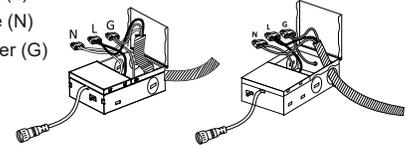

Fig. 3
3. Insert the junction box through the mounting hole and secure it, connect the fixture power cable to the junction box. Select desired lamp color with the CCT switch. (Fig. 3)